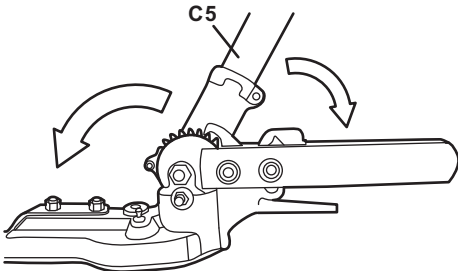

Fig. 18b
- 2. Move the hedge trimmer shaft (C5) with the other hand until the desired angle is adjusted. (See Fig. 18b)